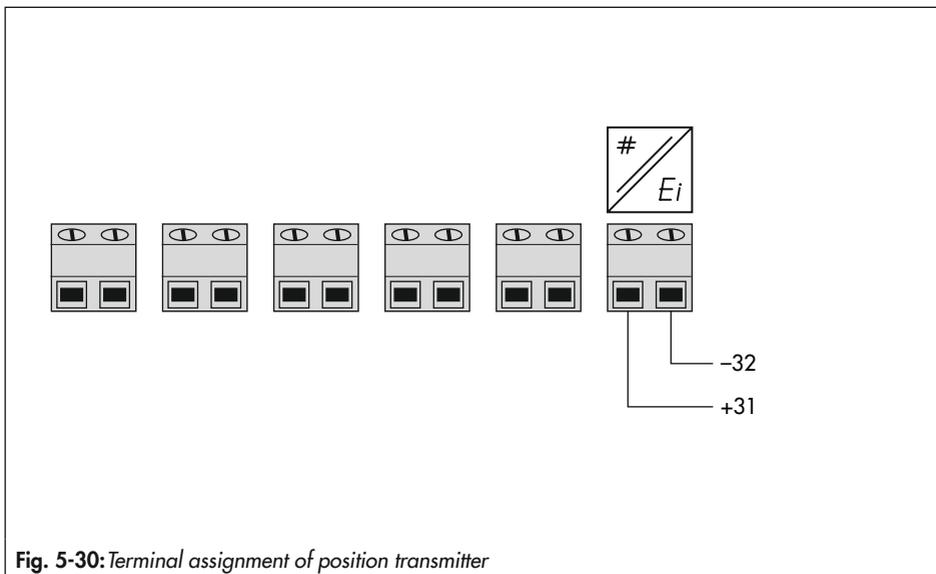

Fig. 5-30: Terminal assignment of position transmitter
- Connect options as shown in Fig. 5-28 to Fig. 5-30, if necessary.